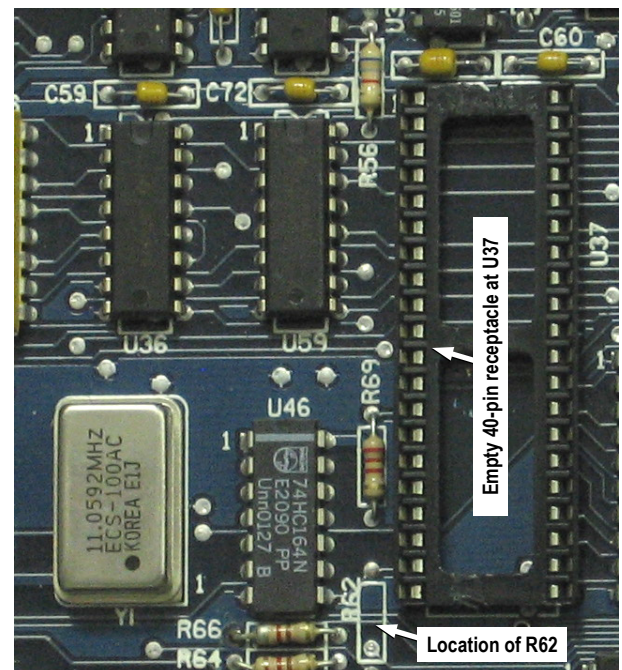

Fig. 4: Location of resistor "R62". This resistor MUST be removed.
4. Carefully cut and remove the resistor labeled "R62". This resistor "R62" is located near the center of the motherboard, just left of "U37" as shown in Fig. 4, below.